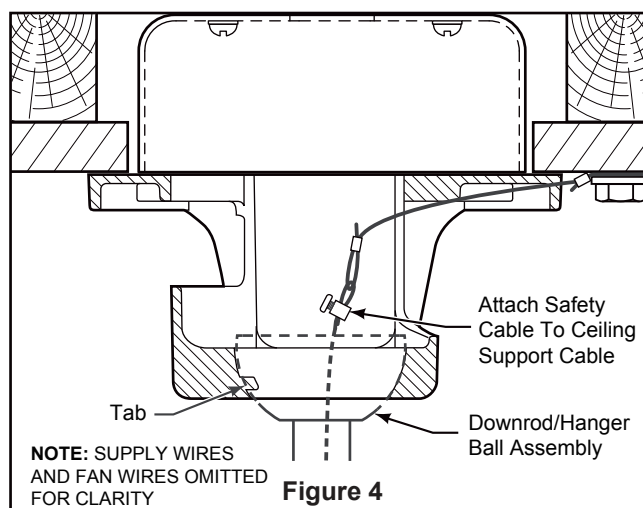

Figure 4
4. Remove the motor coupler washer and upper housing cover from the motor assembly. (Figure 4)
4. Slide downrod into the downrod support on top of the motor. Install the clevis pin by aligning the holes in the downrod support with holes in the downrod. Secure clevis pin with hairpin clip. Tighten the two set screws with nuts in the downrod support. (Figure 4)
4. Carefully lift the fan and seat the downrod/hanger ball assembly onto the hanger bracket that was just attached to the outlet box. Be sure the groove in the ball is lined up with tab on the hanger bracket. (Figure 4)
5. Attach the safety cable to ceiling support cable. Slide cable clamp and washer onto safety cable (from fan). Place the end of cable through the loop of ceiling support cable. Pull as much cable through loop as possible. Feed end of cable into clamp hole and firmly tighten screw. (Figure 4)
3. Connect green wires from hanger bracket, hanger ball and ground from supply using wire connector. Connect black wire from receiver unit marked "AC IN L" to black supply wire using wire connector. Connect white wire from receiver unit marked "AC IN N" to white supply wire using wire connector. Connect white wire from receiver unit marked "TO MOTOR N" to white wire from fan using wire connector supplied with receiver unit. Connect black wire from receiver unit marked "TO MOTOR L" to black wire from fan using wire connector supplied with receiver unit. Lastly, connect blue wire from receiver unit to the blue fan light wire using wire connector supplied with receiver unit. (Figure 4)
- 4.** Secure the glass to the LED assembly by twisting in a clockwise direction. Twist the glass gradually **until it snaps onto the LED assembly.** Do not over-tighten. (Figure 4)
- 4. To set the remote code in the same positions as the receiver, use a small screwdriver or ball point pen (neither included) to slide dip switches firmly up or down. (Figure 4)